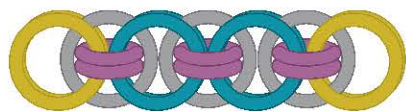

FIG. 1
1. Make a piece of Parallel Chain using 11 large jump rings and 6 small jump rings, following the instructions on page 78 (**FIG. 1**).